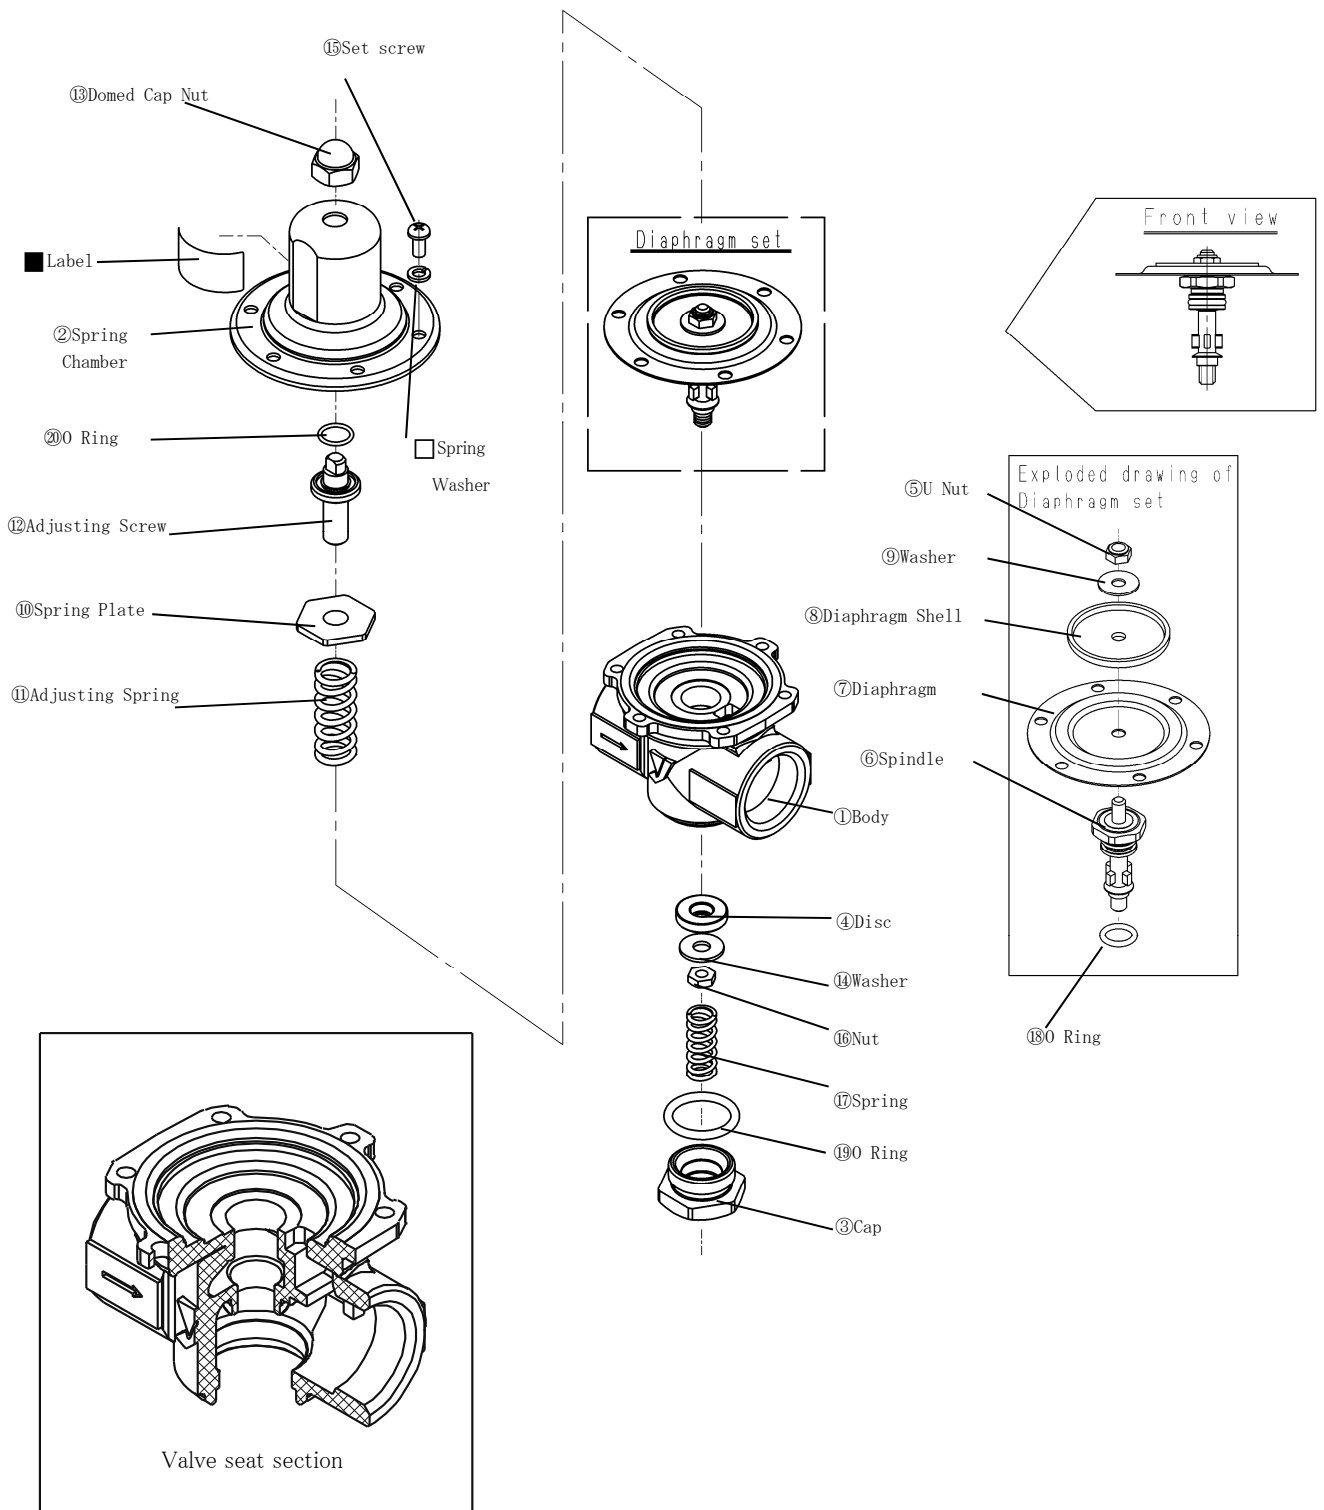

fig. 3 Exploded drawing of GD-41Type
6.2 Troubleshooting (Refer to fig. 3)※Same GD-43 Type